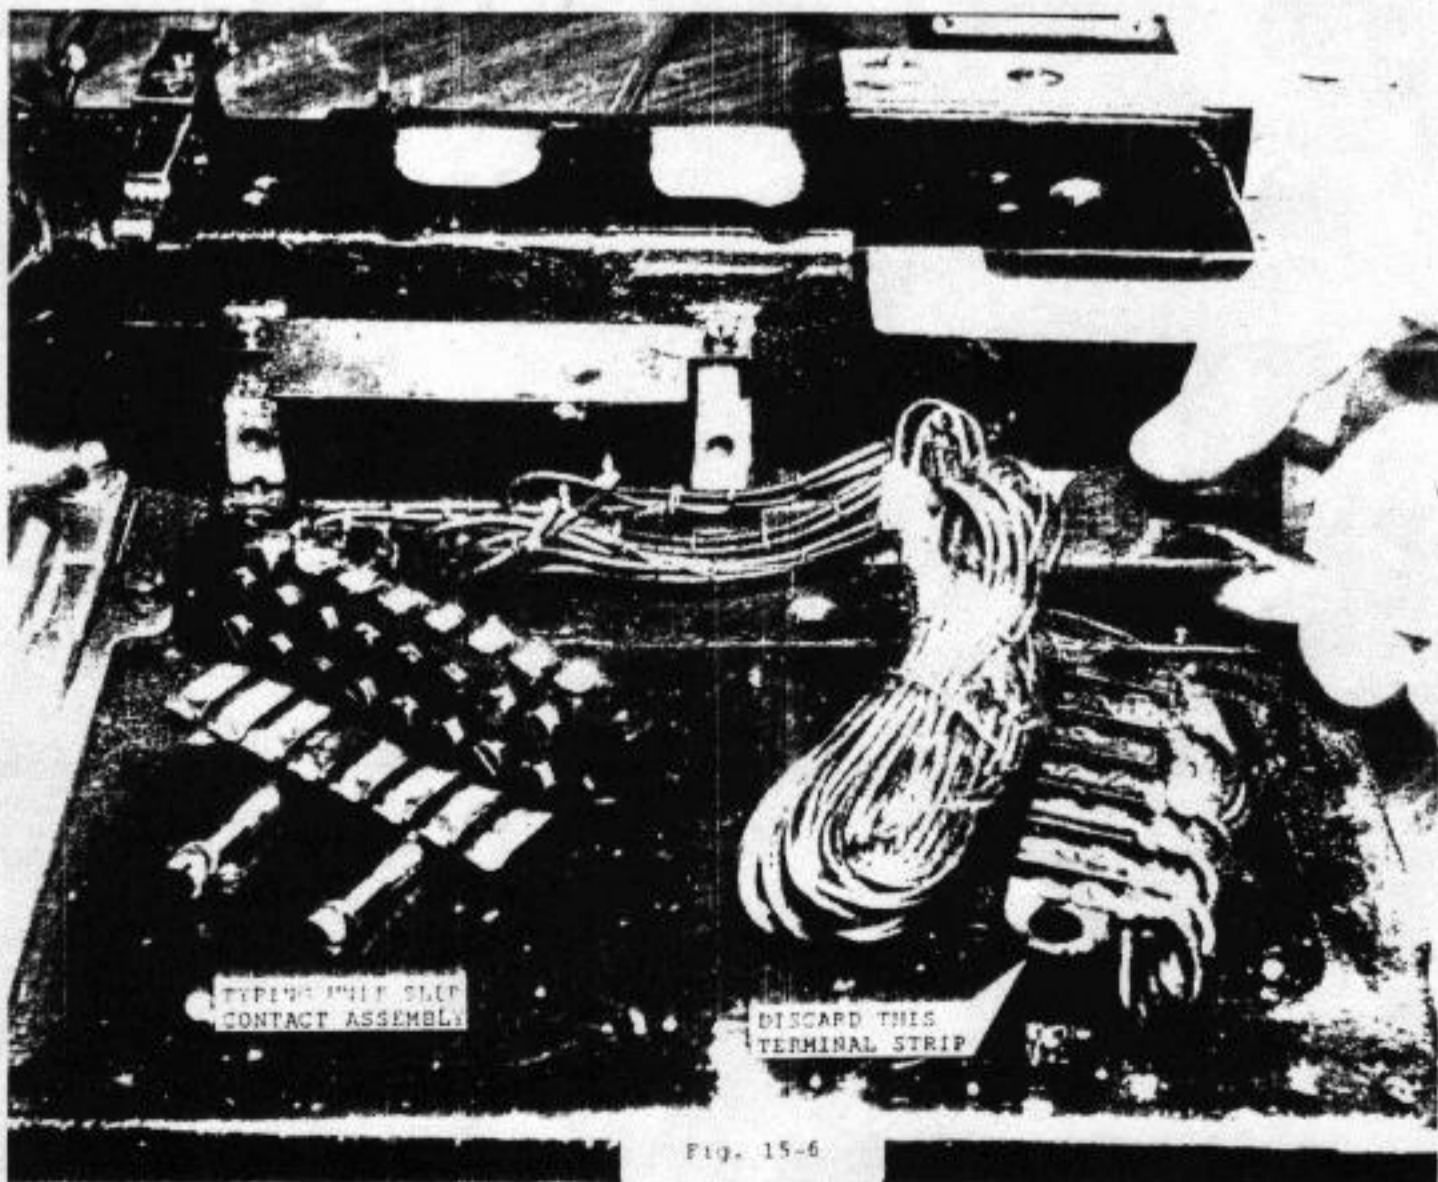

Fig. 15-6
7. With the base topside up, remove two screws holding the typing-unit slip-contact assembly. Unsolder and pull all old wires. Discard the small terminal strip which is on the left rear corner of the base deck, but save the typing-unit slip-contact assembly. Fig. 15-6.